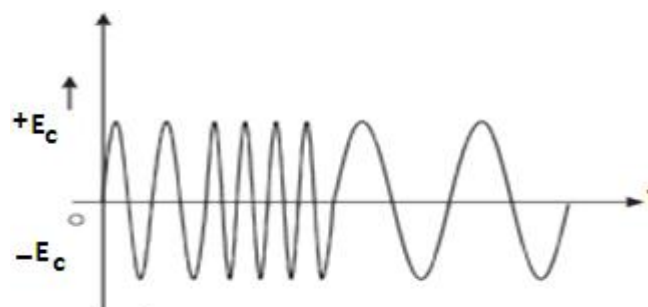

Fig. 3.1 (b) Instantaneous voltage -time curve (FM in Time domain)
- ❖ As can be seen from the Fig 3.1, when the frequency deviation  $\Delta f$  is maximum (i.e.) when  $E_m$  is maximum, the frequency of FM wave is maximum.